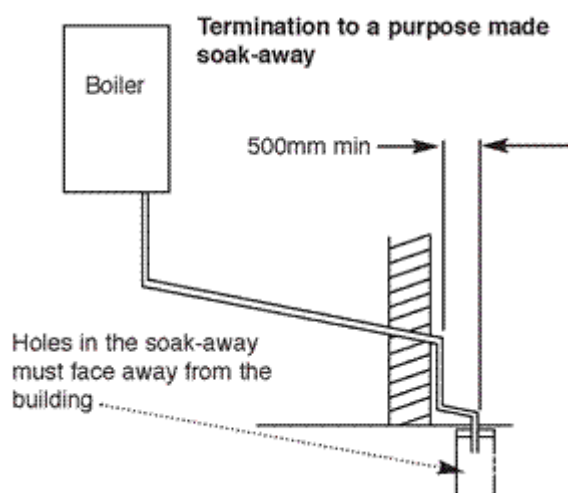

Fig 7
- iv. to a purpose made soakaway - Fig. 7.